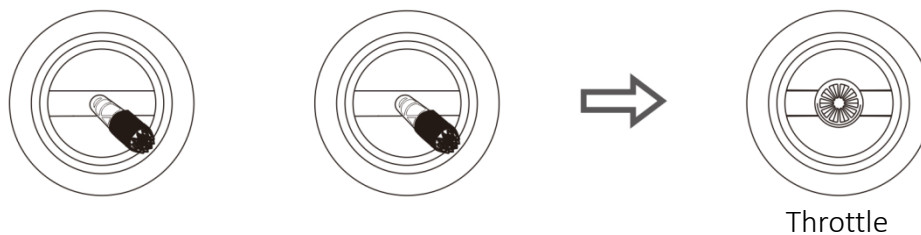

Figure 2-5 Unlock and take off
Step 5: The drone remains at its current altitude and hovers after the throttle lever is centered, as shown in Figure 2-5.